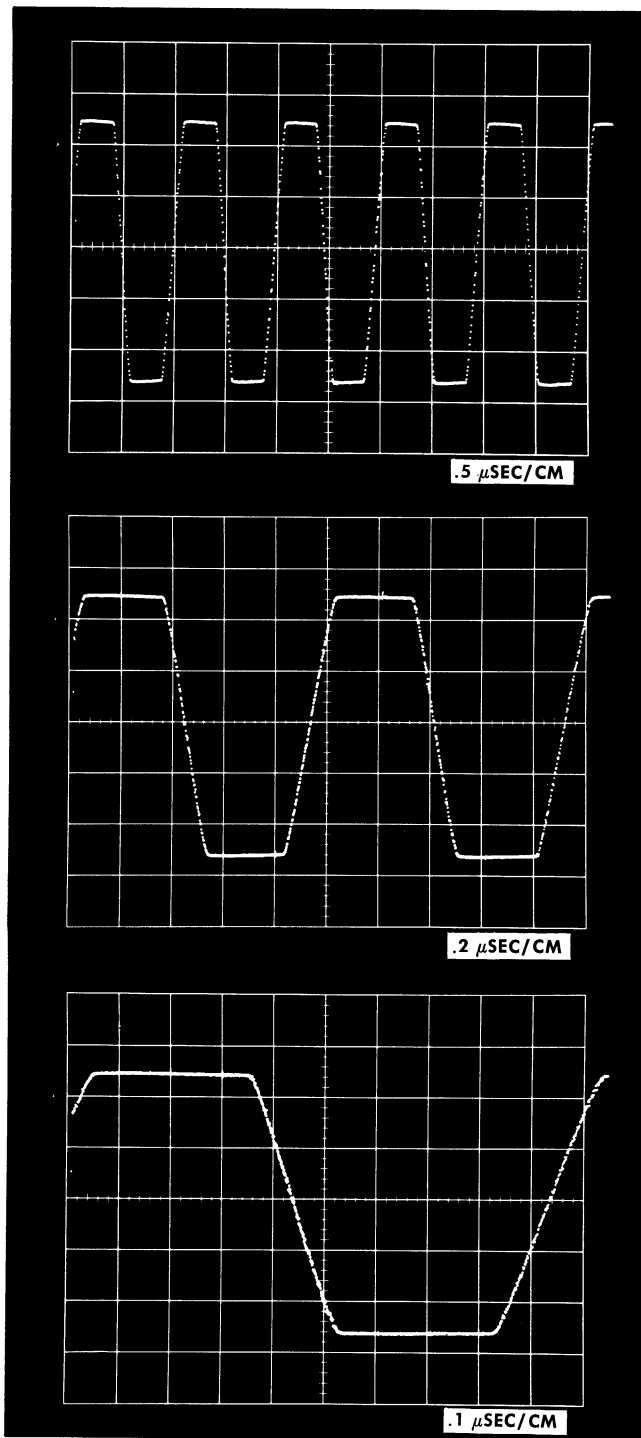

Fig. 2-2. Triggered calibrator waveform illustrating equivalent-time magnification. Time expansion occurs about the left edge of the display.
14. Adjust the TIME POSITION and FINE controls so the display starts near the top of a positive-going slope on the waveform (see Fig. 2-2).